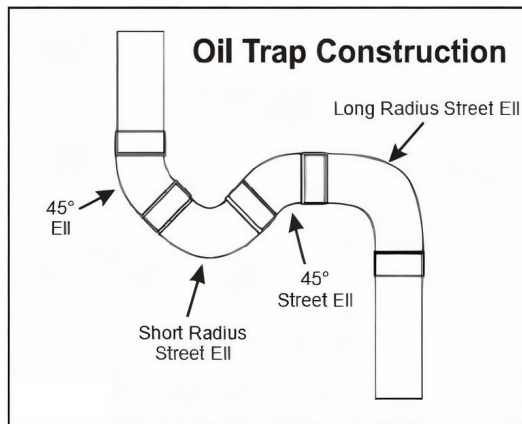

Figure 3-1 Indoor Oil Trap Construction
** An oil trap at the indoor unit is required if the elevation difference exceeds 80' (24.4 m). The trap can be constructed of standard refrigerant fitting (See Figure 3-1.)